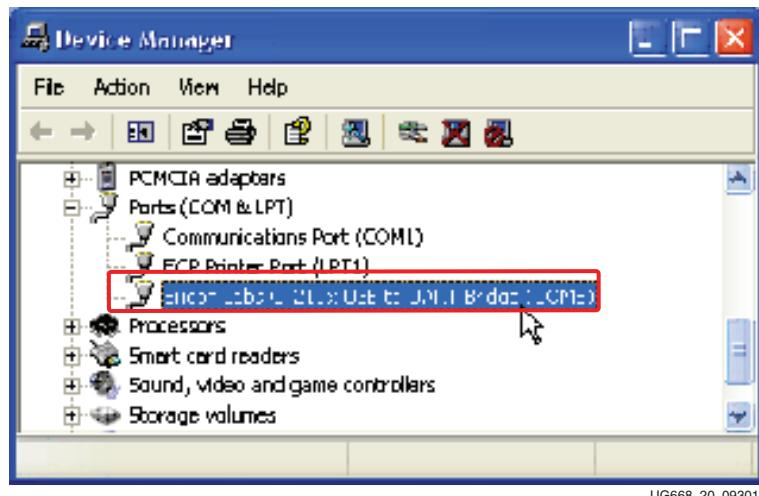

Figure 20: Silicon Labs USB to UART Bridge Properties
2. Expand the **Ports (COM & LPT)** entry as shown in Figure 20. This shows the COM port assigned to the Silicon Labs CP210x USB to UART bridge. This is the COM port to use in the serial communications program.